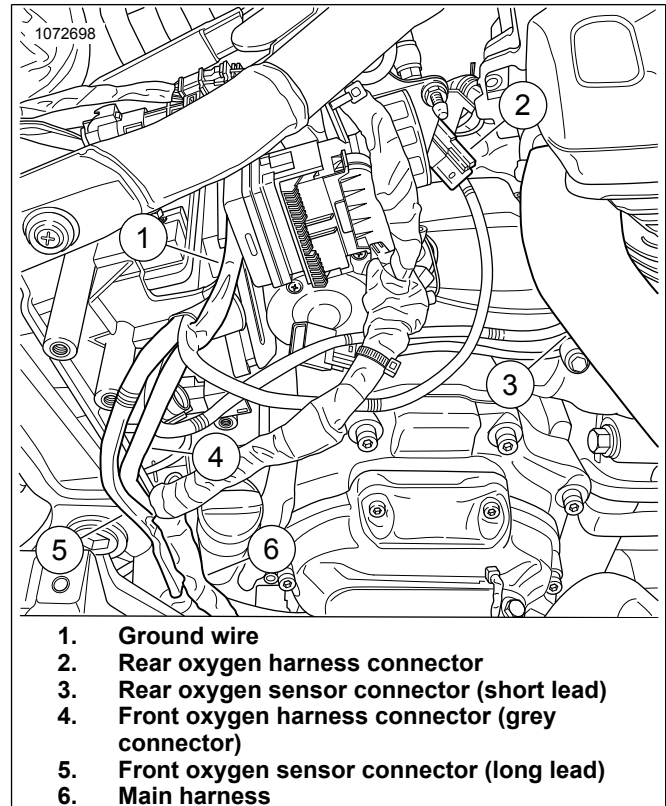
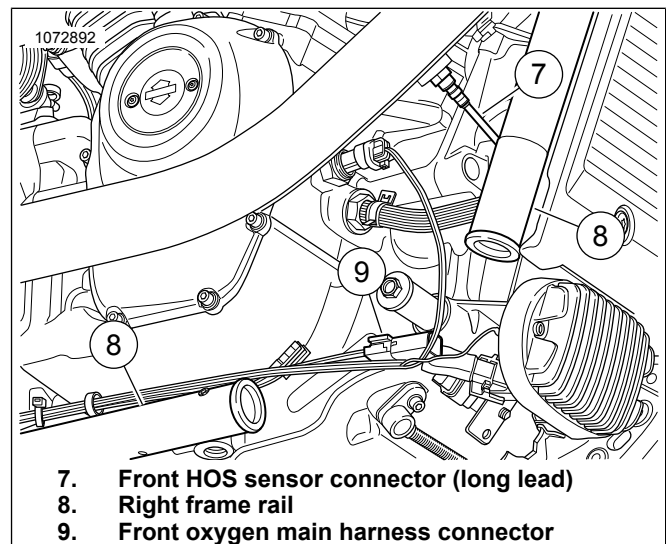

Figure 24. ATM Harness Routing
Figure 25. Front ATM Harness Routing (Parts removed for clarity)
16. See Figure 24 and Figure 25. Route front oxygen harness with grey connector (4) out of battery compartment:
- a. Locate main harness (6).
- b. Route harness (4) with grey connector along main harness toward the front main harness connector (9).
- d. Secure harness to inboard side of right frame rail (8) with cable straps as needed.
17. Route black harness connector (2) to main harness. Color match connectors: black to black.
- a. Route front oxygen sensor connector harness (5) out of battery compartment.
- b. Locate main harness (6).
- c. Route harness (5) along main harness toward the front oxygen sensor (7).